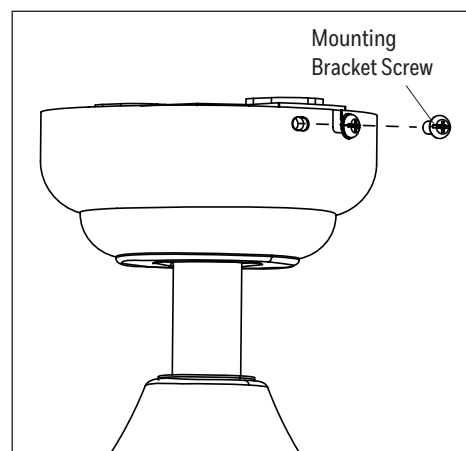

Figure 5.3
3. Secure the canopy with the two previously removed mounting bracket screws. Tighten all the mounting bracket screws securely (Figure 5.3).